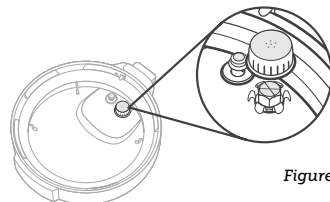

Figure 10.2
- a. Remove the anti-block shield by gripping it from either side, then pulling it up. [Figure 10.2]